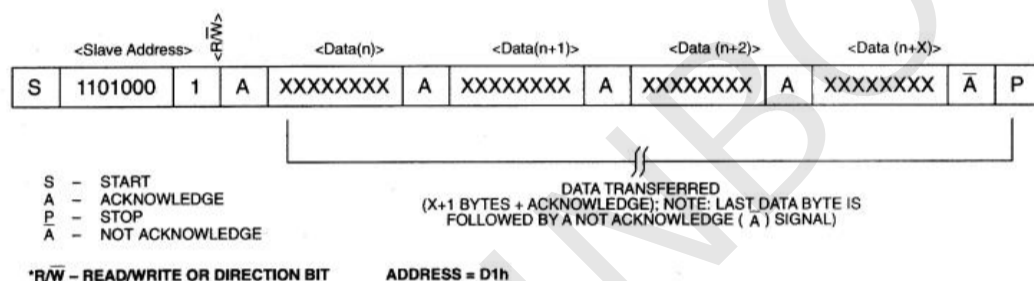

Figure 7.Data Read - Slave Transmitter Mode
2. **Slave transmitter mode(DS1307 read mode):**The first byte is received and handled as in the slave receiver mode. However, in this mode, the \*direction bit will indicate that the transfer direction is reversed. Serial data is transmitted on SDA by the DS1307 while the serial clock is input on SCL. START and STOP conditions are recognized as the beginning and end of a serial transfer (See Figure 7). The address byte is the first byte received after the start condition is generated by the master. The address byte contains the 7-bit DS1307 address, which is 1101000, followed by the \*direction bit (R/W) which, for a read, is a 1. After receiving and decoding the address byte the device inputs an acknowledge on the SDA line. The DS1307 then begins to transmit data starting with the register address pointed to by the register pointer. If the register pointer is not written to before the initiation of a read mode the first address that is read is the last one stored in the Register pointer. The DS1307 must receive a Not Acknowledge to end a read.